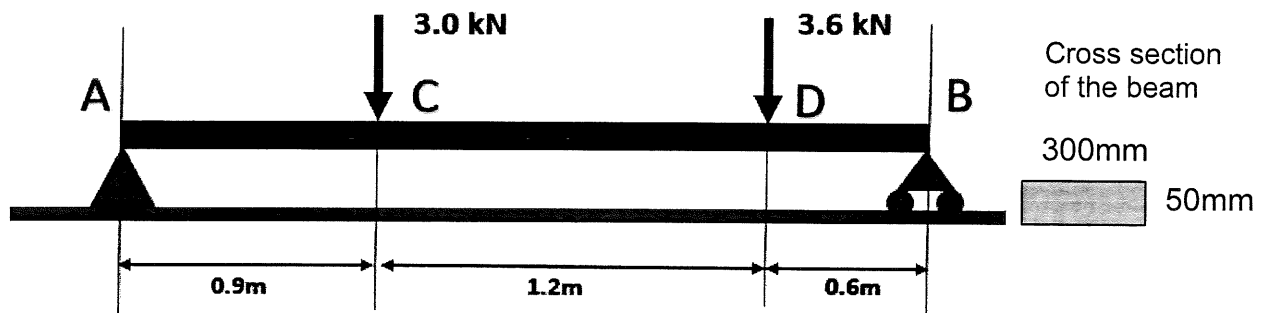

Figure 3
According to Figure 3, you need to provide some information due to deflection and slope problem. Given that the cross section of the beam is 300 mm x 50 mm and Modulus of Elasticity (E) is 120 GPa,